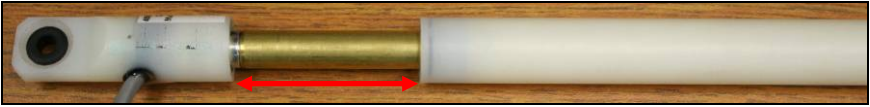

Figure 20: Open Position Sensor
6. Slide the position sensor open approximately half-way. Use a ruler or tape measure to measure the distance between the two parts of the position sensor. (Figure 20) Check that the reading is measuring the same distance minus 5mm [0.2”].